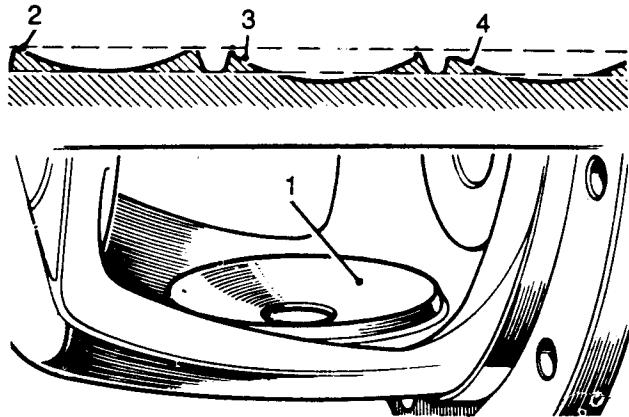

Fig J2.50
(5) Refer to Fig J2.50. Check the differential pinion seatings (1) in the case, as follows:
- i. The spherical seats (2) must be finished flush.
- ii. The seat must not be stepped or recessed (3).
- iii. If a step is present (4) it must be ground away to prevent the pinion teeth rubbing the casing.